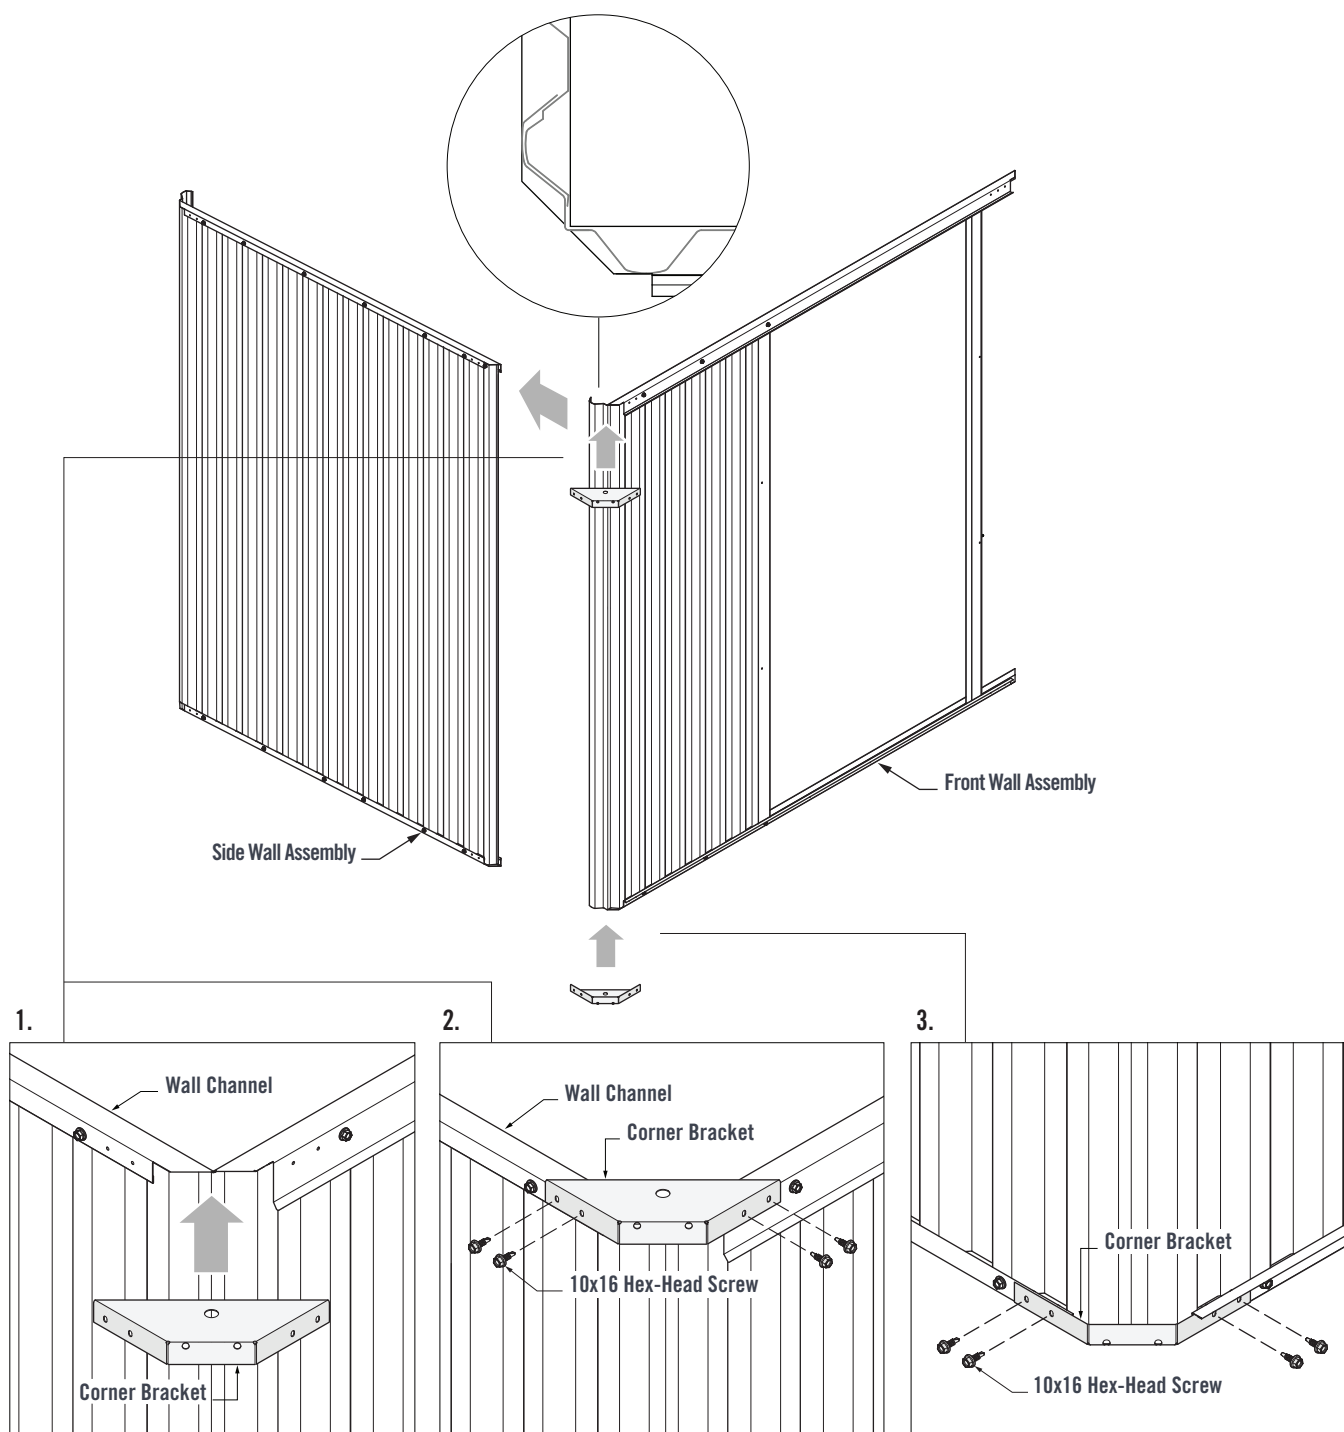

FIGURE 6.0
1. Fit a Corner Bracket over the top Channels. Ensure the pilot holes of the Corner Bracket and Channels line up (Figure 6.0).
2. Fasten through the Corner Bracket pilot holes and into the top Channels using four 10x16 Hex-Head Screws (Figure 6.0).
3. Fit a Corner Bracket to the bottom Wall Channels. Fasten through the Corner Bracket pilot holes and into the bottom Wall Channels using four 10x16 Hex-Head Screws (Figure 6.0).
Fit the Remaining Wall Assemblies together with Corner Brackets as per Figure 6.0.
2. Use the **Door Shroud** as a guide to set the correct spacing between the **Door Jamb**s. Fit the Corner Bracket as per Figure 6.0.